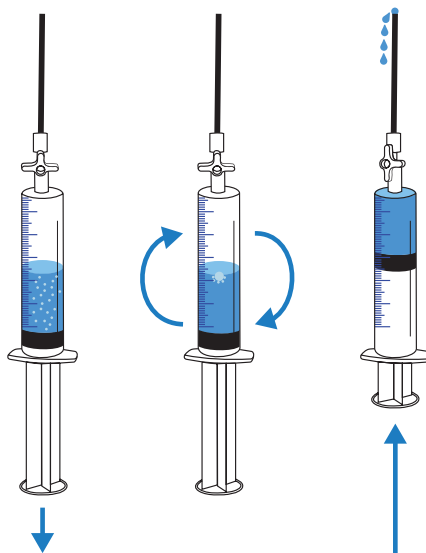

Figure 14 Degassing water in refill syringe
7. Repeat step 3 through step 6, 2 to 3 times (Figure 14).